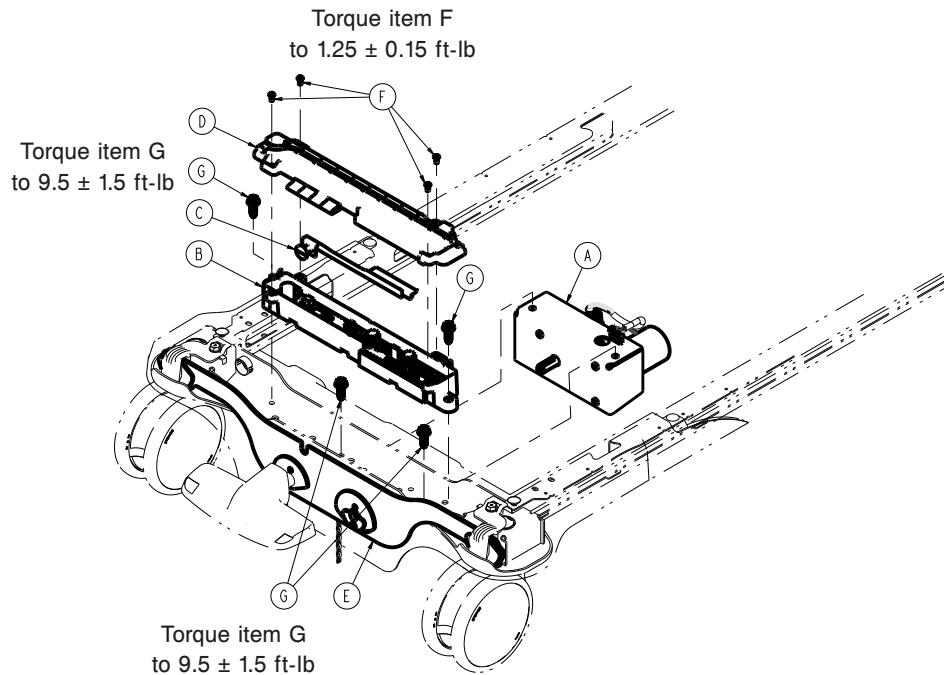

Figure 19 – Electric brakes (option)
6. Using a T10 Torx driver, remove the four screws (F) that secure the brake control board top enclosure (D) to the brake cam enclosure assembly (Figure 19). Remove the top enclosure.
10. Using a ratchet and 1/2" socket, remove the two bolts (G) that secure the brake cam enclosure assembly to the base frame (Figure 19). Save the bolts.
10. Using a ratchet and 1/2" socket, remove the two bolts (G) that secure the brake cam enclosure assembly to the base frame (Figure 19). Lift up out of the way.
11. Using a ratchet and 1/2" socket, remove the two bolts (G) that secure the brake motor assembly (A) to the base frame (Figure 19). Pull the motor assembly toward the foot end to remove.